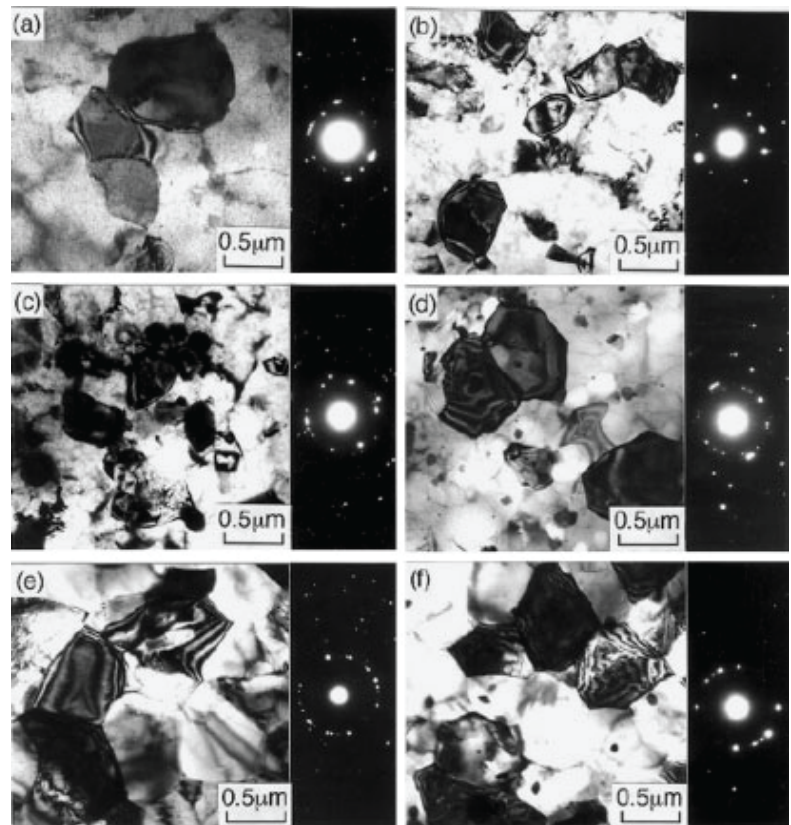

Fig 2 TEM microstructures of the typical UFGs in various kinds of ARB processed materials. Observed from normal direction (ND).
The ARB materials processed through several cycles are filled with ultra-fine grains (UFG). Figure 2 shows the typical UFG
structures in some ARB processed Al alloys and steels. Independent of material type, UFGs with diameters smaller than 1 μm are observed. The UFGs are surrounded by clear but irregular shaped boundaries, and the number of dislocations inside the grains appear to be small. These features are similar to those observed in materials heavily deformed by other SPD processes. The microstructures in Figure 2 were observed from the normal direction (ND) of the sheets. The most characteristic feature of the UFGs in the ARB processed materials is the elongated morphology.